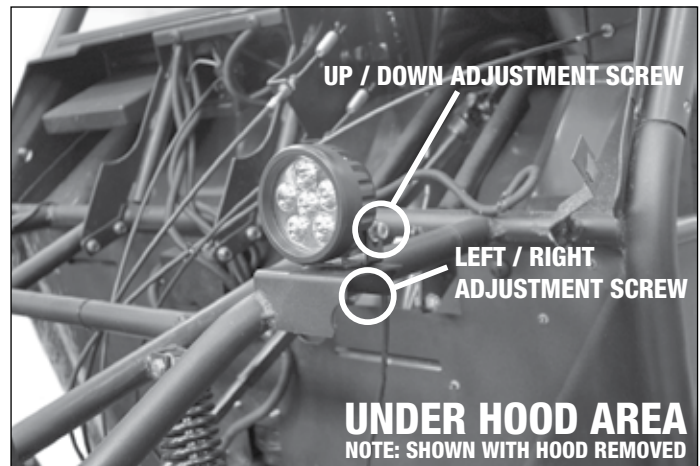

figure 4.16 (headlight adjustment screw locations)
- b. For the REAR of the vehicle, place a straight edge (or 2' level) placed vertically at the 12 and 6 o'clock position. Using a digital or dial type angle gauge, adjust the wheel end to achieve 2 deg POSITIVE camber (top of wheel outboard slightly) by rotating the radius arms to the correct position. DO NOT tighten the radius arm fasteners until the TOE adjustments have been made. (REF FIG 4.16)
The headlights on your vehicle are sealed LED lights and must be replaced if damaged as a complete assembly. Headlight adjustment is achieved by loosening the fasteners as shown in figure 4.16, adjusting and re-tightening.